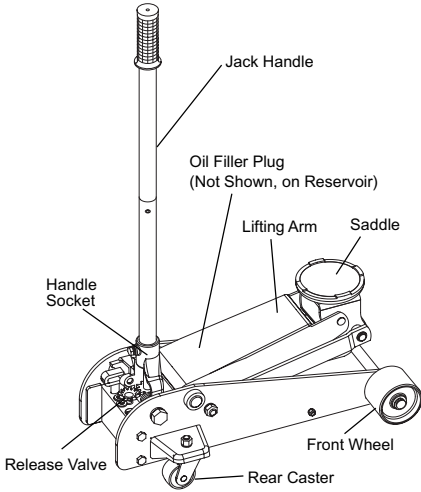

FIG. 3
Compare Fig. 3 illustration with your jack BEFORE operation to become familiar with the location of various jack components.
- Close the release valve by turning the jack handle clockwise until tight. (see Fig. 3)
- Refer to the vehicle manufacturer's owner's manual to locate approved lifting points on the vehicle. Position jack so that the saddle (see Fig. 3) is centered under the load at an appropriate lift point.
- Position the jack on level ground and fully lower the saddle. (Ram will be all the way in). Remove oil filler plug from the reservoir (see Fig. 3 & 4).